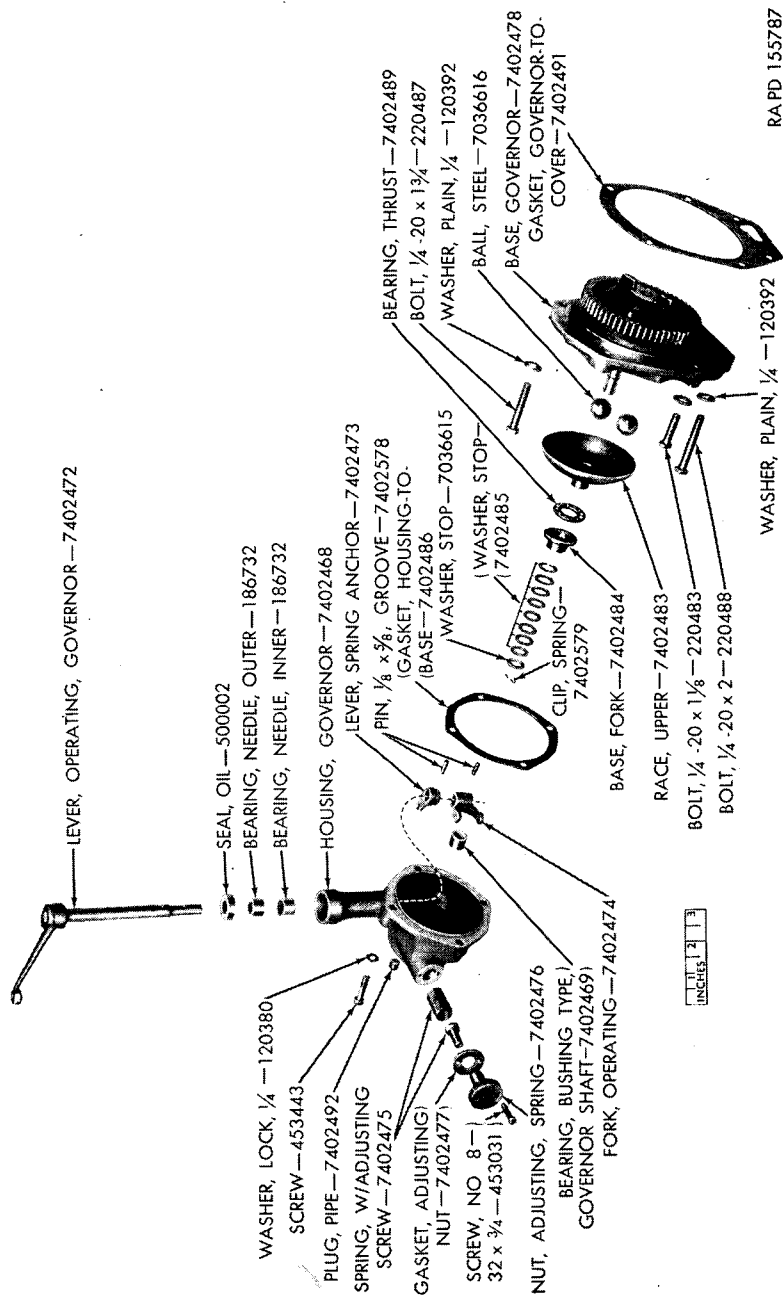

Figure 77. Governor—exploded view.
b. Remove spring clip which secures stop washers, fork base, thrust bearing and governor (flyweight ball) upper race to governor base (fig. 77). Remove stop washers, fork base, thrust bearing, upper race and six flyweight balls. Note sequence of removal of these parts.
c. The spring adjusting nut is threaded onto adjusting screw and secured to governor housing with two No. 8-32 x $\frac{3}{4}$ screws (fig. 77). Turn spring adjusting nut counterclockwise to remove nut and gasket. Detach hook end spring from spring anchor lever and remove adjusting screw and spring from governor housing (fig. 77).
d. Note position of operating fork and position of spring anchor lever on governor operating lever (fig. 77). Remove pipe plug from governor housing and, using punch through plug hole, remove $\frac{1}{8}$ x $\frac{3}{8}$ groove pin securing operating fork to operating lever. Remove fork. Rotate operating lever approximately 180° and remove groove pin securing spring anchor lever to operating lever. Remove anchor lever from operating lever and lift operating lever from governor housing (fig. 77).
e. Remove needle inner bearing (fig. 77) with soft rod or drift; then, working through governor housing cavity, remove needle outer bearing and oil seal. Remove bearing from governor housing using a bearing remover.
a. Inspect governor base (fig. 77). Remove any nicks or burs which will prevent a good gasket seal from governor base mounting surface with whetstone. Check governor drive shaft and remove burs or score marks with whetstone. Inspect governor drive gear for broken or chipped teeth. If governor base, drive shaft or drive gear is damaged, replace with new assembly.
b. Install new inner needle bearing (fig. 77) from cavity side of governor housing; then, install new outer needle bearing and a new oil seal in governor housing. Lip of oil seal must face away from bearing (fig. 77).
c. Insert shaft of operating lever (fig. 77) carefully through oil
seal and bearings so as not to damage lip of seal. Slide spring anchor lever on operating lever and secure with $\frac{1}{8} \times \frac{5}{8}$ groove pin. Spring attaching end of anchor lever must face toward cavity of governor housing. Slide operating fork (fig. 77) on operating lever with finished sides of fork ends facing out and secure with $\frac{1}{8} \times \frac{5}{8}$ groove pin. Install pipe plug in governor housing.
d. Insert adjusting screw and spring (fig. 77) in governor housing. Attach hook end of spring to spring anchor lever. Position gasket on spring adjusting nut and thread adjusting nut onto adjusting screw. Secure spring adjusting nut in place with two No 8-32 x $\frac{3}{4}$ screws (fig. 77).
e. Rest governor base on drive gear end and place six flyweight balls in slots provided. Assemble flyweight ball upper race, thrust bearing, fork base, and stop washers in that sequence on governor drive shaft (fig. 77). Secure parts to shaft and base with spring clip (fig. 77).
f. Assemble governor housing to governor base using new housing-to-base gasket (fig. 77) and secure with three $\frac{1}{4}$ -20 x $1\frac{1}{8}$ screws and lock washers. A fourth governor-housing-to-base screw and lock washer is installed when governor is mounted on the engine (par. 114).